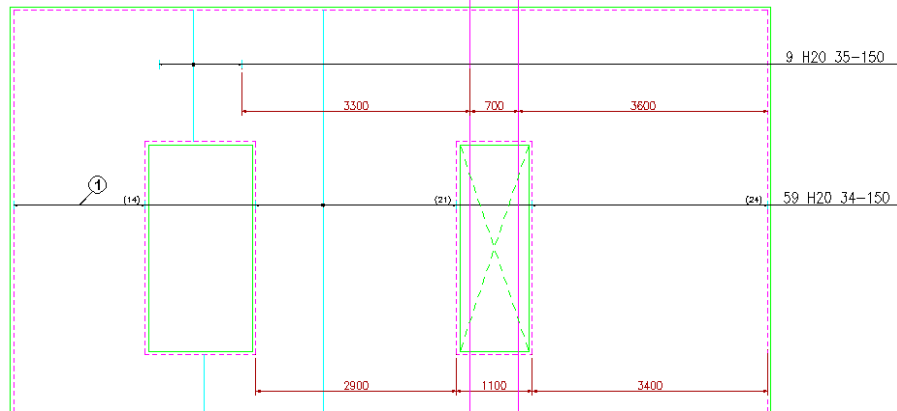

Figure 7.3.10:5 Additional Group added to Single Fixed Pitch Range
17. Select **CADS RC** → **Editing** → **Edit Range** or or double click on the Range Line as shown by point 2 in figure 7.3.10:6 below